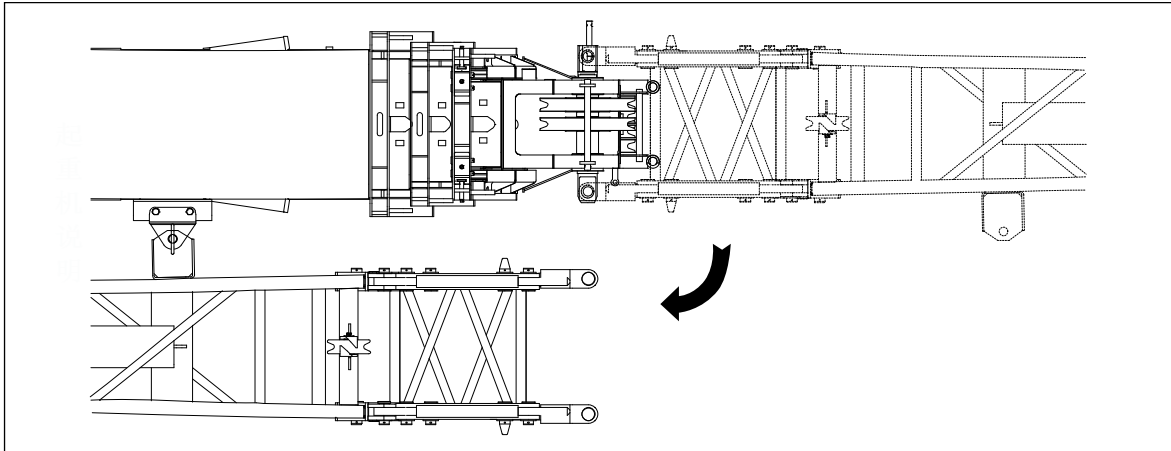

Figure 7-50 Attach the Jib to the Side of the Boom
- When it is not necessary to use the jib, make sure that it is attached to the side of the boom. You cannot use rooster sheave when the jib is attached to the front of the boom. Refer to Figure 7-50.